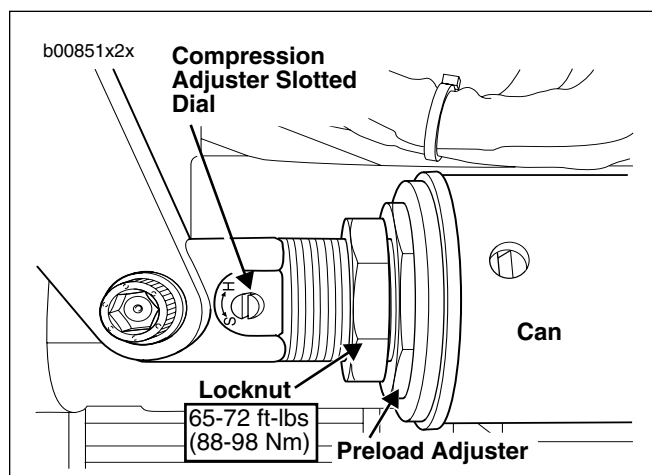

Figure 5. Preload and Compression Damping Adjustment
2. See Figure 5. To adjust shock preload, loosen the locknut and turn the preload adjuster at the end of the shock to move can towards front or rear of motorcycle.
- *See Figures 5 and 6. To adjust rear shock to maximum damping setting, use screwdriver to turn slotted dial on appropriate adjuster clockwise until it stops. This is the maximum damping setting.*
- *See Figures 5 and 6. To adjust rear shock to factory recommended settings, turn dial counterclockwise from maximum damping the amounts shown in Steps 7 and 8 to align the reference marks.*
7. See Figure 5. Set compression damping using the slotted dial on the shaft at the rear of the shock. New factory setting is as listed below: